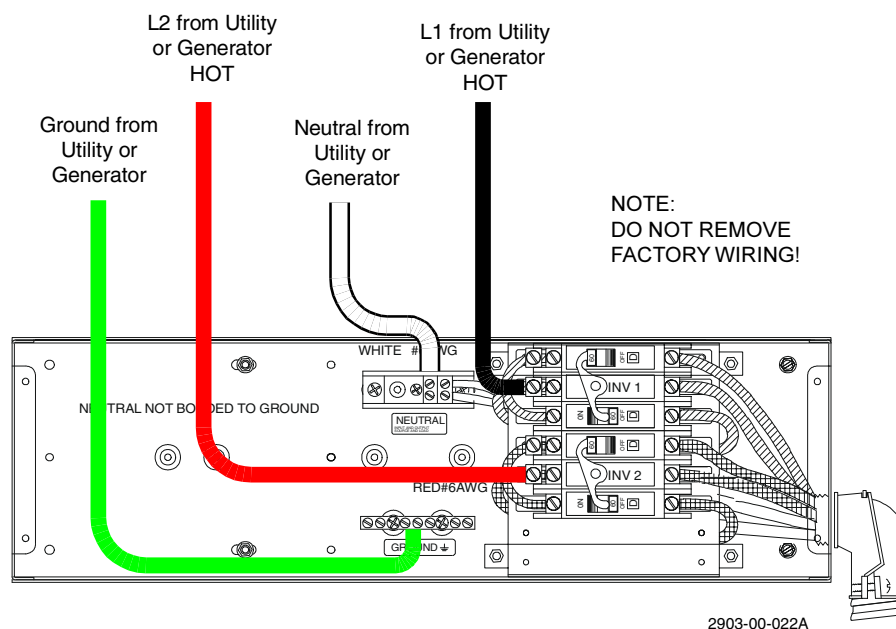

Figure 20
- Connect the Ground from the main utility box to the ground terminal in the AC Disconnect/Bypass Box as indicated in Figure 20.
- Connect the Neutral wire from the main utility box to the Neutral block in the AC Disconnect/Bypass Box as indicated in Figure 20.